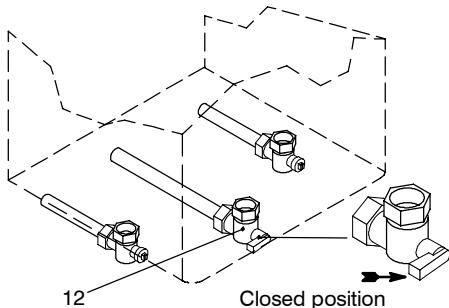

Fig. 8.1
- 1 Check that the gas cock (12 in Fig. 8.1) fitted under the boiler is turned off and the appliance is switched off at the mains isolating spur.